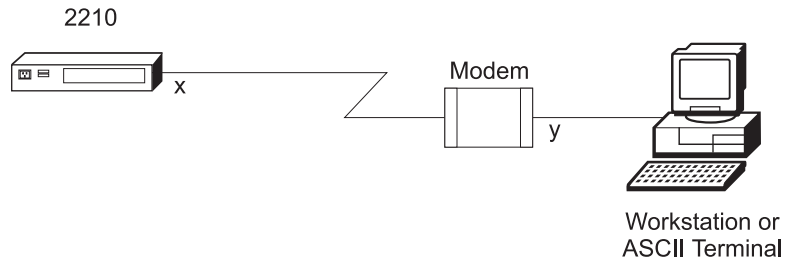
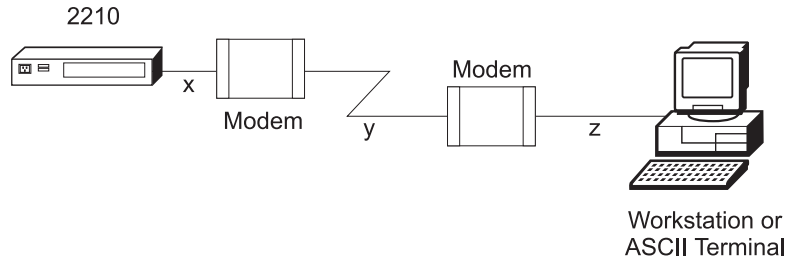

Figure A-2. Remote Connection to 14.4 Kbps Modem Port Feature (14T and 24x Models)
Figure A-3. Remote Terminal Connection to the Primary or Secondary EIA-232 Service Port
- Remotely using dial-in (over telephone lines) through a modem attached to the EIA-232 primary service port or the secondary service port, if installed. You can also use an ASCII connection. The secondary service port can be either an EIA-232 Service Port Feature or a 14.4 Kbps Modem Port Feature. See Figure A-2 on page A-2 and Figure A-3 on page A-2.